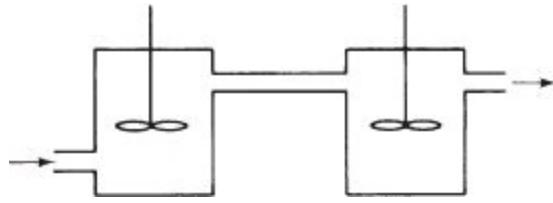

Figure P17.12
- 17.12.** Suppose that you have two tanks in series, as diagrammed in Figure P17.12. The volume of liquid in each tank remains constant because of the design of the overflow lines. Assume